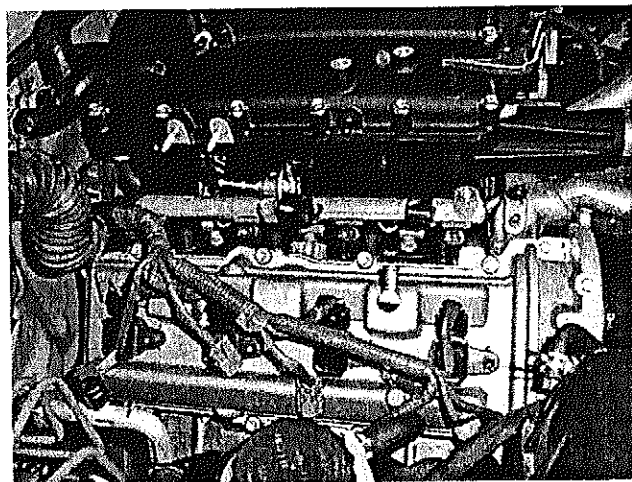

Figure 24
6. Install 4 insulators, 4 injectors and the passenger's-side fuel delivery pipe (Figure 24). Use the factory fuel delivery pipe nuts. Torque to 7.5 N-m (66 in.-lbf).